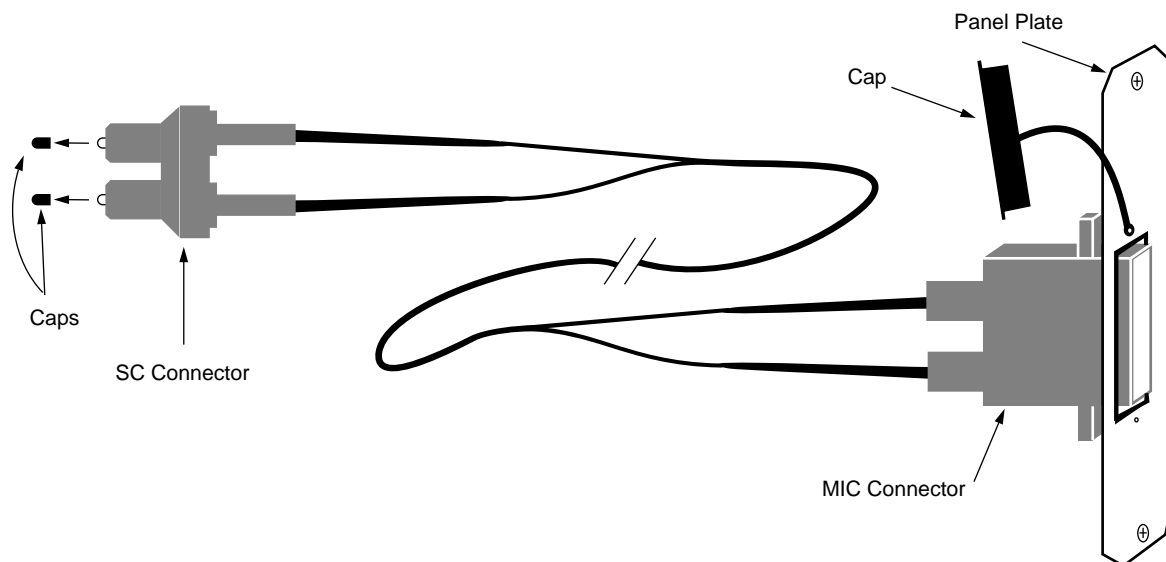

Figure 2-11 IRIS ATM Internal Cable Assembly
8. From the sheets of labels, remove a small-sized label with the identification created in the previous step. Attach the label to the outside of the ATM I/O panel plate that is attached to the internal cable assembly (illustrated in Figure 2-11).
1. Locate the internal cable assembly that consists of two fiber optic lines terminated inside an SC connector at one end and a MIC receptacle attached to the ATM I/O panel plate at the other end, as illustrated in Figure 2-11.